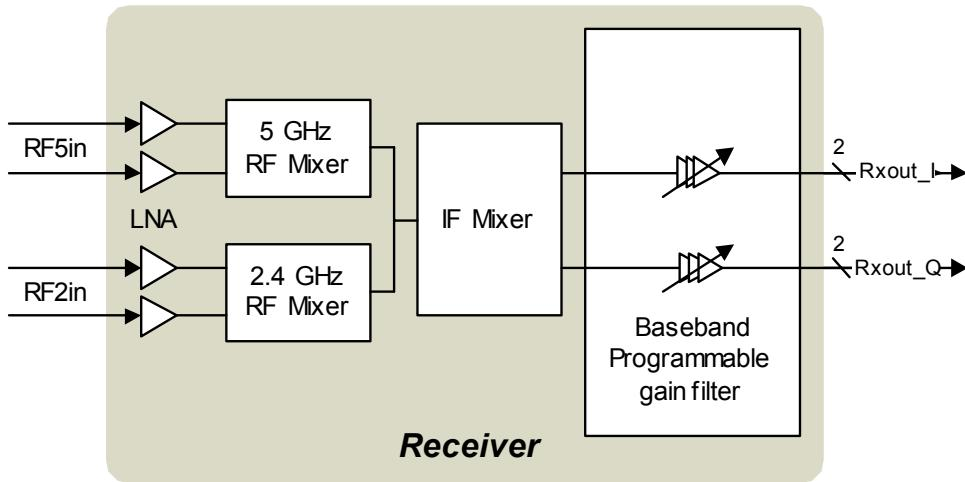

Figure 3-2. RF Receiver Functional Block Diagram
The receiver implements an integrated down-conversion architecture that eliminates the requirement for an external intermediate frequency filter, while providing the advantages of traditional heterodyne approaches. The receiver topology includes a low noise amplifier (LNA), a radio frequency (RF) mixer, an intermediate frequency (IF) mixer, and a baseband programmable gain amplifier (PGA) as shown in Figure 3-2. The RF mixer converts the output of the on-chip LNA